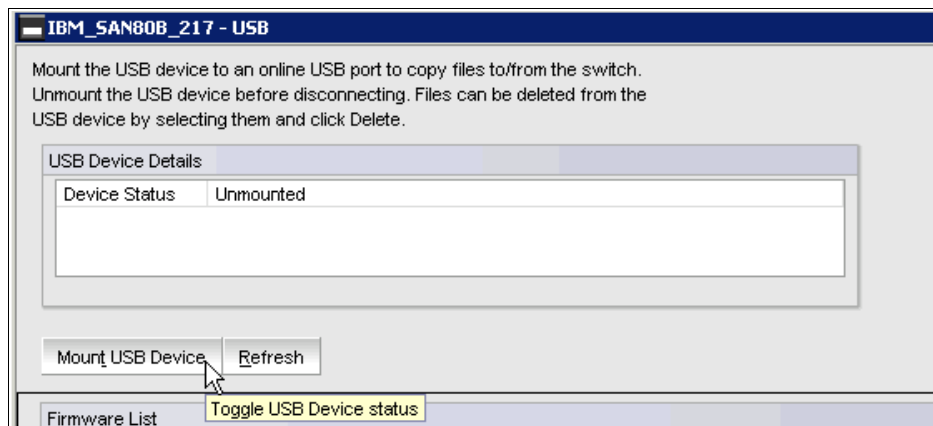

Figure 12-52 Mounting the USB device
2. Click **Mount USB Device** as shown in Figure 12-52.